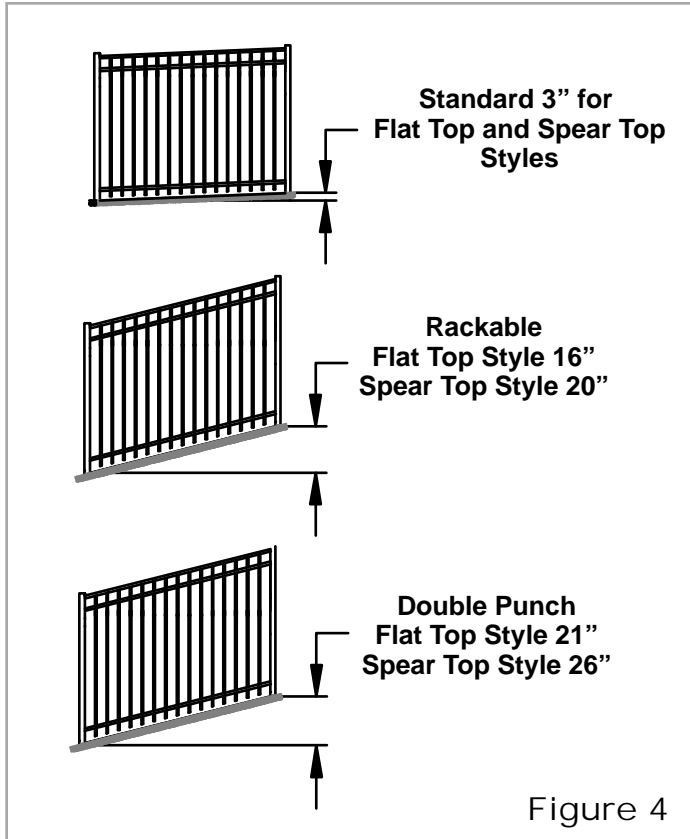

Figure 4
6. Aluminum Fence Supply offers three grades of rackability for its panels. (Figure 4)